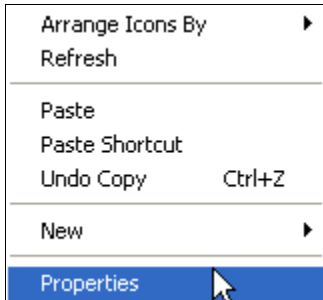

Figure 5
3. Move your mouse arrow to an open area on your Desktop, right click to open the “Display” Pop up menu. Choose **Properties** from this menu and single click on it to open the Display Properties Screen. See Figure 5.